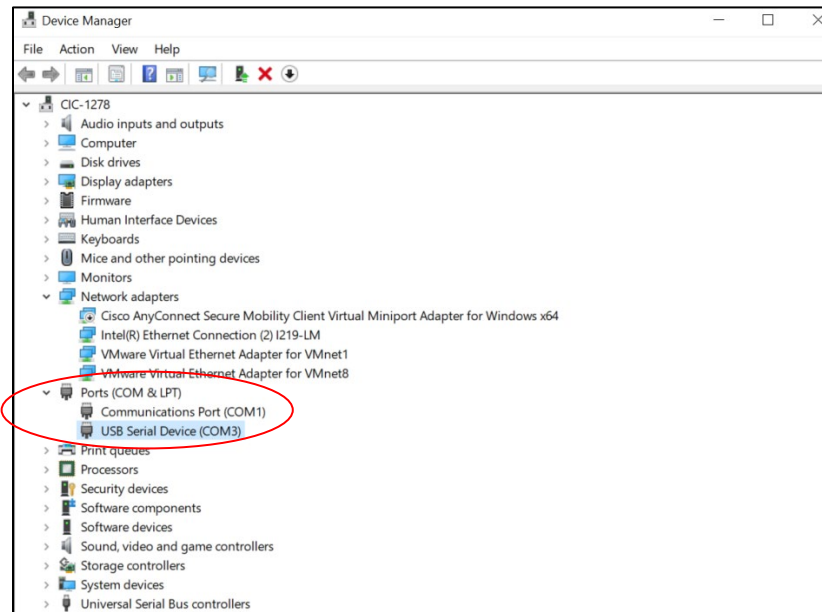

Figure 18: Device Manager Window
11. Ensure that the USB cable connecting the computer with the Brookfield Head Unit of the TESC, and that the Brookfield Head Unit is powered ON. Click on the plus sign to open the dropdowns under **Ports (COM & LPT)** and identify which USB port is associated with the TESC. It likely reads something similar to **USB Serial Device (COM3)**, as shown in Figure 18.